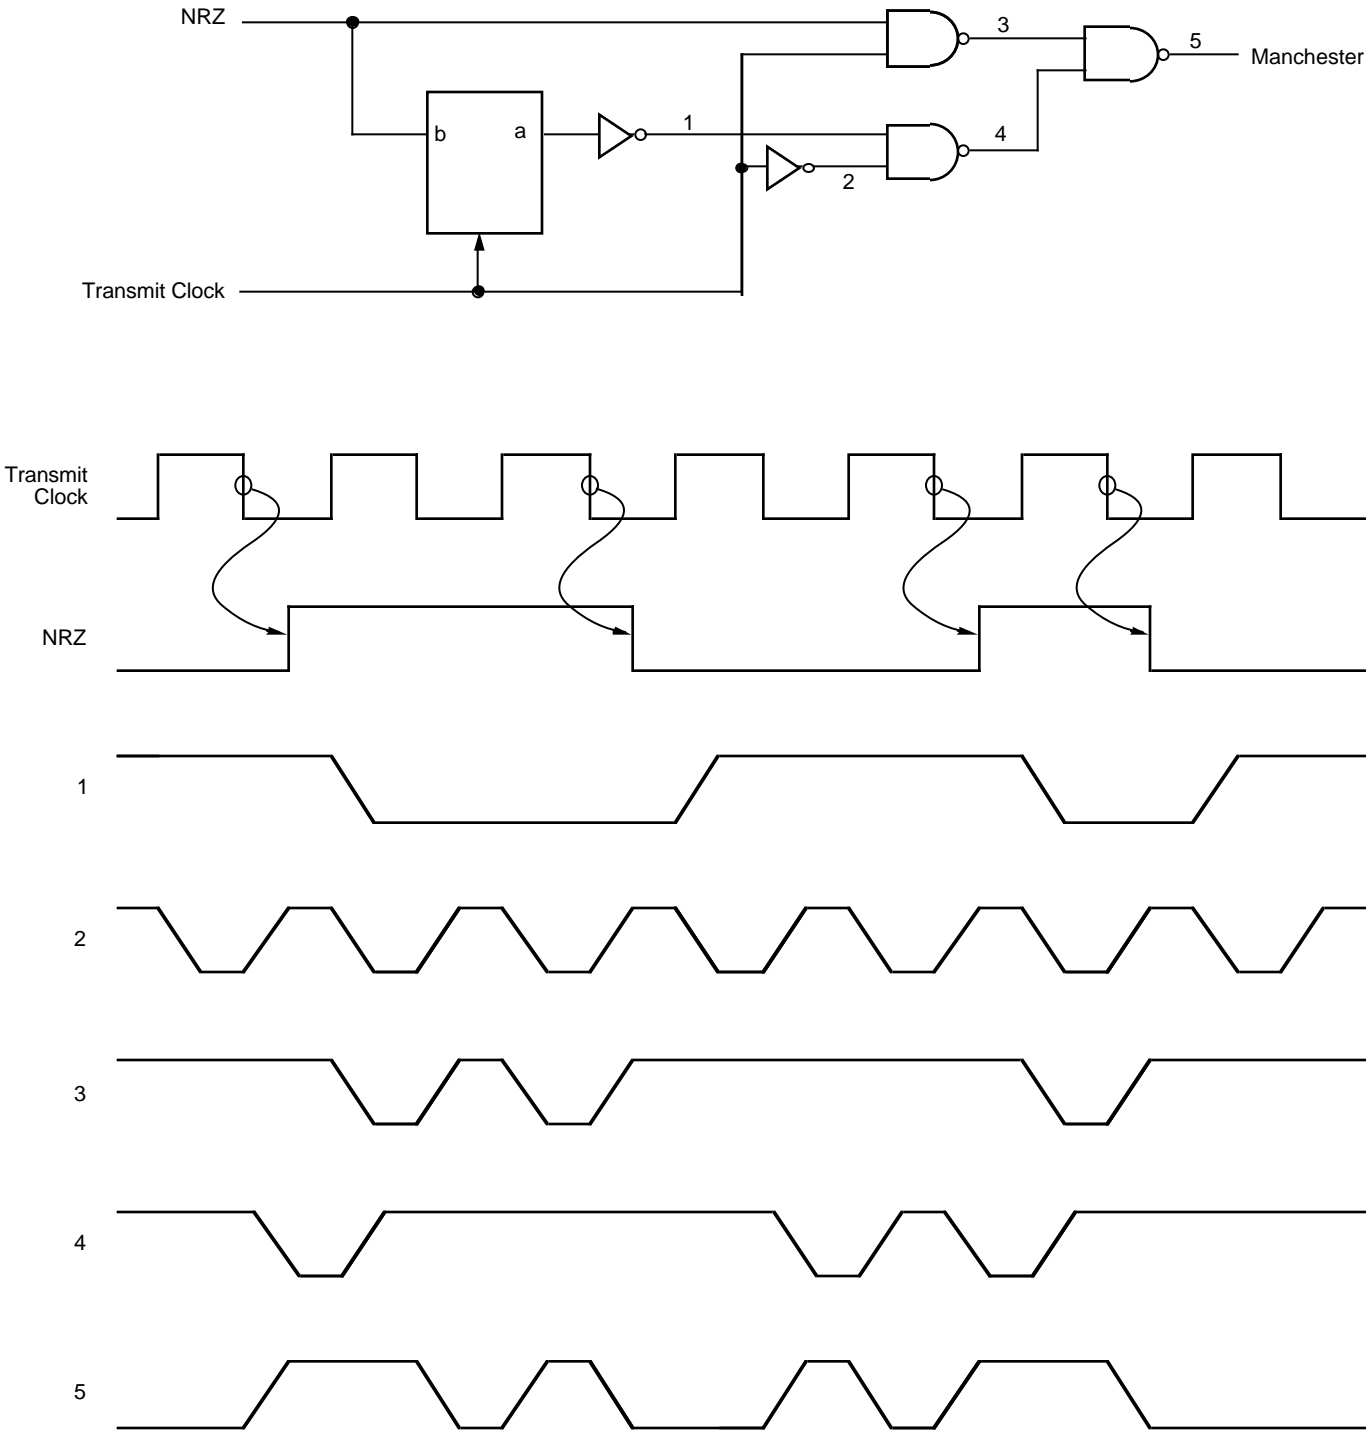

Figure 3-4. Manchester Encoding Circuit
**Manchester (Bi-phase Level).** Manchester (bi-phase level) encoding always produces a transition at the center of the bit cell. If the transition is Low to High, the bit is 0. If the transition is High to Low, the bit is 1. Encoding of Manchester format requires an external circuit consisting of a 'D' flip-flop and four gates (Figure 3-4). The SCC is used to decode Manchester data by using the DPLL in the FM mode and programming the receiver for NRZ data (See Section 3.1.3).